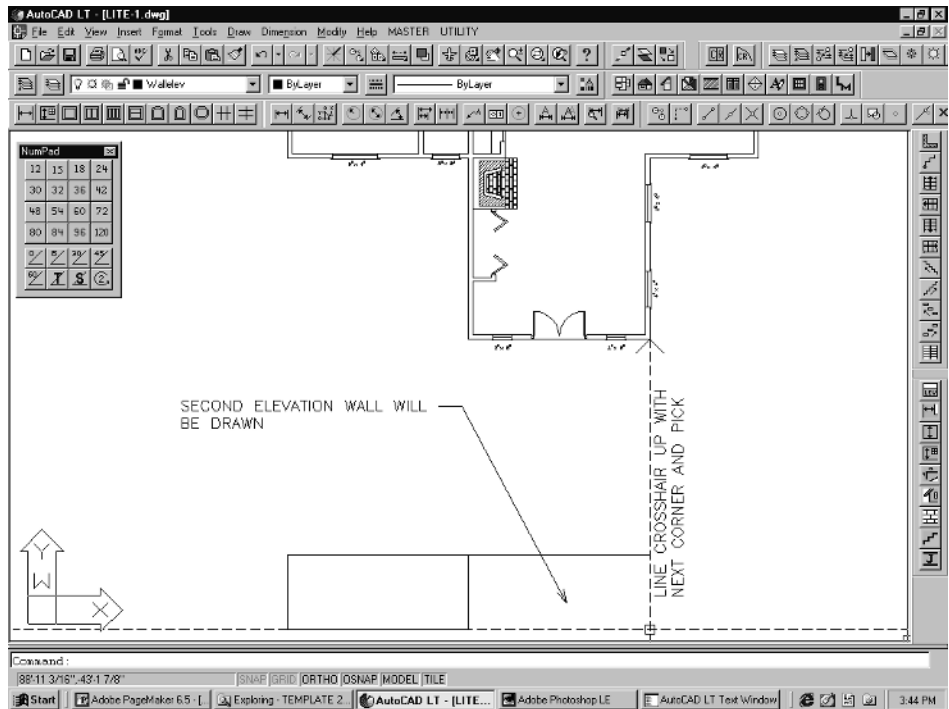

Figure 6-63
6. Pull the cursor to the right, line up the crosshair with the next building corner, and pick with your left mouse button. The second section of the elevation wall will be drawn, as shown in Figure 6-63. The Elevation Menu will pop back up.